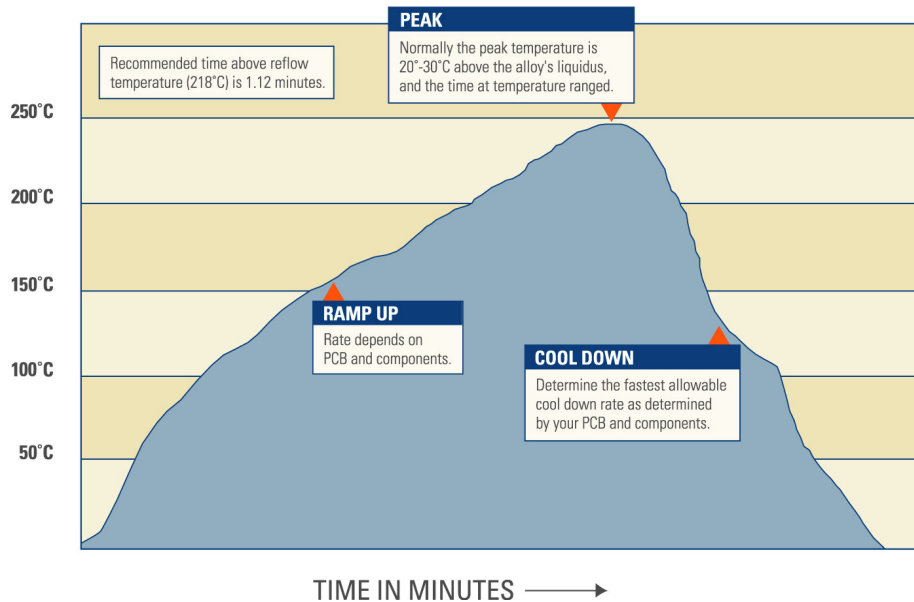

Fig. 11b
- 9.2.7 Maximum ramp rate should be <2.5° C per second. [Fig. 11b]